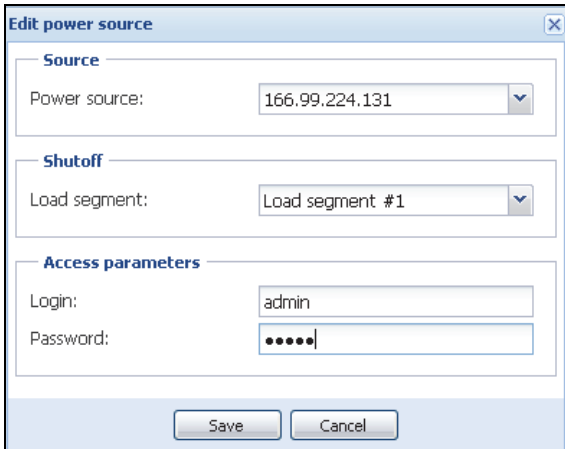

Figure 17. Edit Power Source Dialog Box
- 3 Click **Edit Power Source**. The Edit Power Source dialog box displays (see Figure 17).